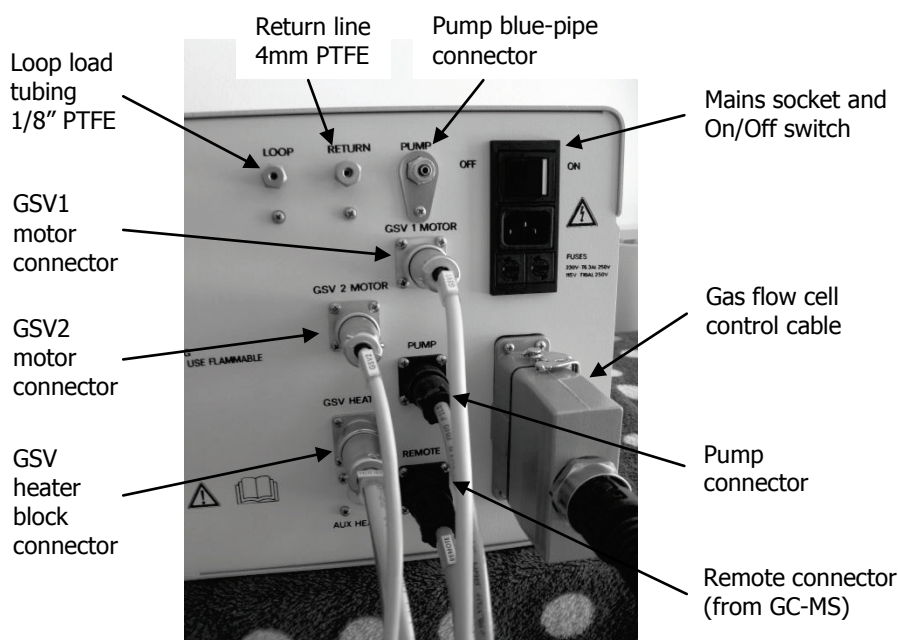

Figure 40 TL 9000 controller module (rear view) with electrical connectors in place
2. Connect all the male connectors with the appropriate female sockets, paying attention to the labeling to ensure that the connections are correct (Figure 40).